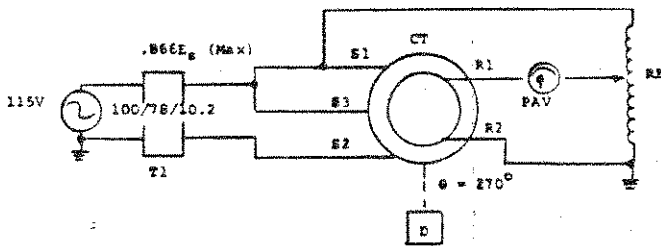

Figure 7-14. Transformation Ratio Test (CT)
- a. Set up equipment as shown in figure 7-14.